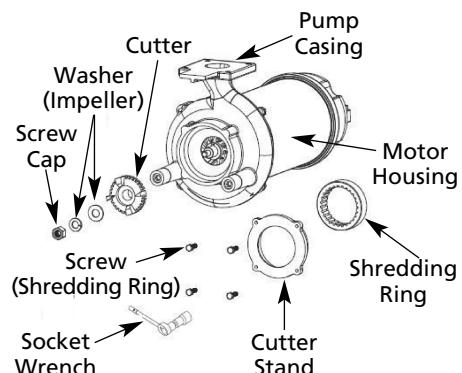

Figure 8
- Remove the cutter stand (Figure 8) and shredding ring. Remove the screw, washer, and spring washer; then the cutter. Clean and examine the cutter, shredding ring and cutter stand for pitting or wear and replace if damaged. To maintain efficient grinder pump operation, the cutter and shredding ring must have sharp cutting edges. Neither part can be sharpened to renew its cutting ability. The cutter must be replaced and the shredding ring either reversed or replaced. Inspect the cutter stand and replace it if cut or damaged.